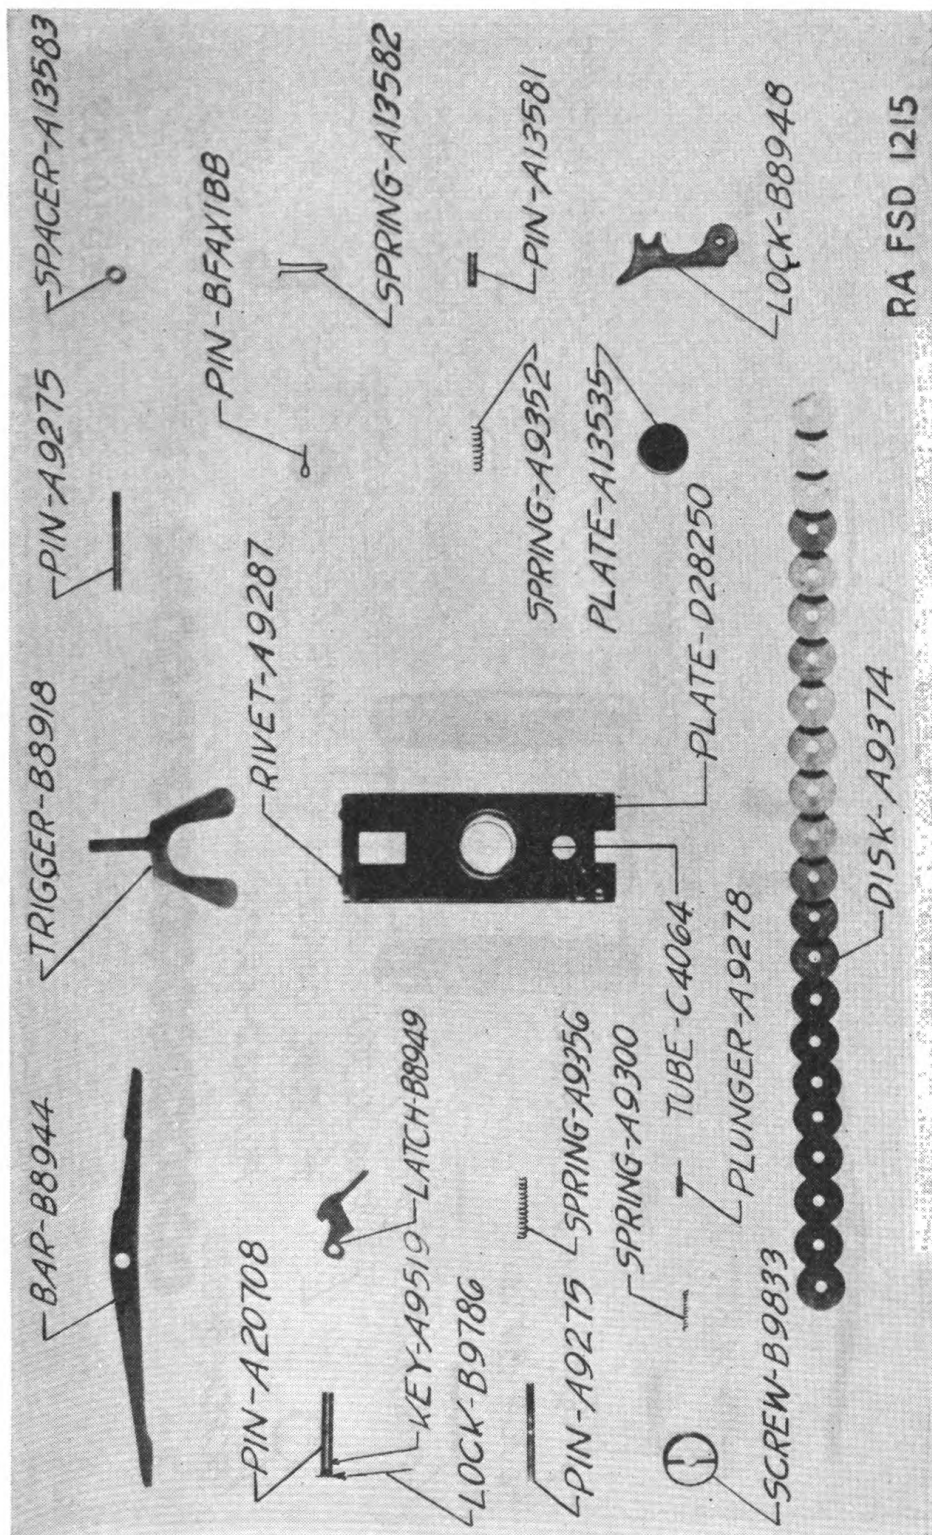
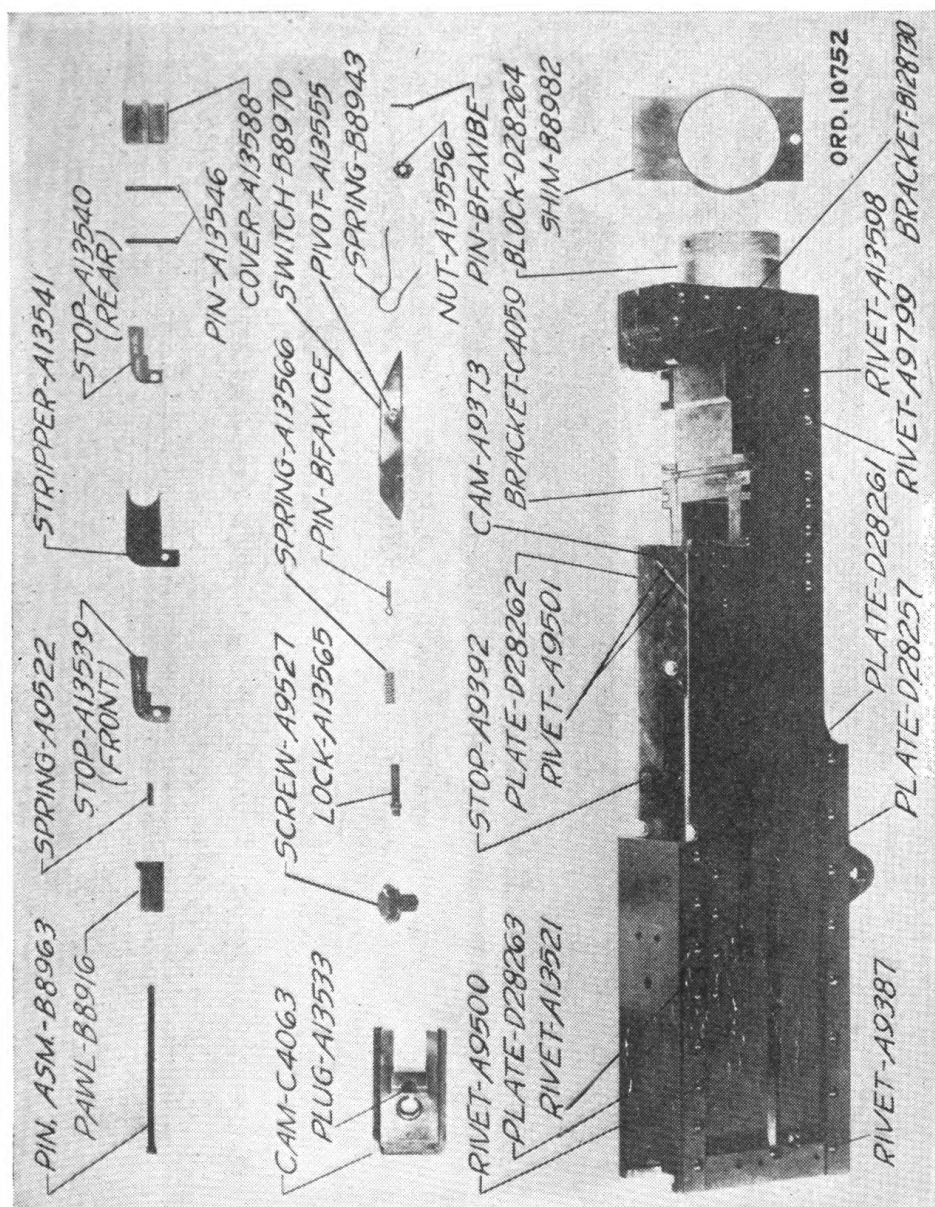

FIGURE 16.—Back plate for use on anti-aircraft machine-gun mount, caliber .50, M2.
FIGURE 18.—Receiver group.
(8) Withdraw cotter pin from end of cover latch shaft and remove cover latch shaft assembly.
e. Back plate group (figs. 16 and 17).—(1) Drive out back plate latch pin being careful that the back plate latch spring does not fly out upon removal of back plate latch.
(2) Remove cotter pin, drive out latch lock pin, and remove latch lock and latch lock spring.
(3) Drive out trigger pin being careful that the trigger spring does not fly out upon removal of trigger and trigger spacer.
(4) Unscrew adjusting screw, remove adjusting screw plunger and adjusting screw plunger spring.
(5) Remove buffer disks and buffer plate through the rear end of the buffer tube.
f. Casing group (figs. 18 and 19).—(1) To prevent injury to rear sight leaf, the rear sight movable base and rear sight leaf assembly should be removed from the rear sight fixed base. Turn rear sight windage screw knob until rack on movable base is entirely free from windage screw, then lift assembly from movable base pivot. Lift off movable base tension spring.
(2) To remove side plate trigger assembly from casing, withdraw cotter pin from side plate trigger bolt and unscrew side plate trigger nut. To disassemble—